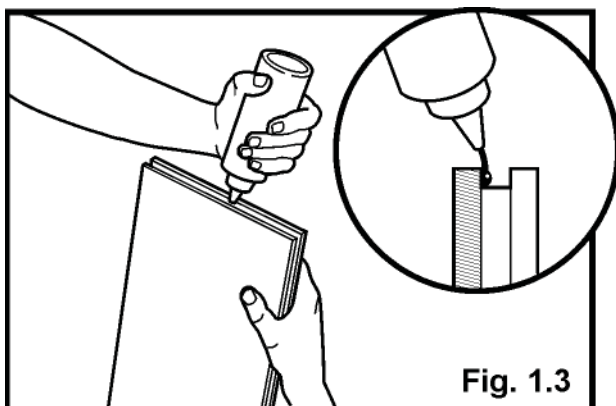

Fig. 1.3
- 1.3 Apply 1/8" bead of Landobond™ adhesive to upper inside of grooves on end joint only (and all subsequent end joints) as shown in Fig. 1.3.
Start next board (Fig. 3) by applying 1/8" bead of Landobond™ adhesive to **upper** side of grooves on end joint only (Fig. 1.3, previous page). Be sure to stagger end joints by minimum of 20" for Kährs 15mm flooring. For Kährs 14mm flooring use **minimum 5" stagger, preferred 8"**.